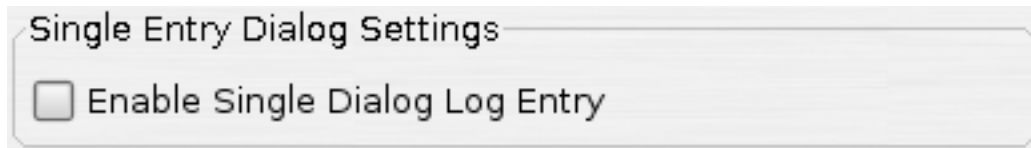

Figure 5.33. Single dialog log entry settings
2. Under the "Single Entry Dialog Settings" make sure the "Enable Single Dialog Log Entry" box is checked see Figure 5.33, “Single dialog log entry settings”. You will now notice that the New button on the "Drivers Logs" screen no longer has a down arrow on the right side of the button indicating that you are in single dialog mode.